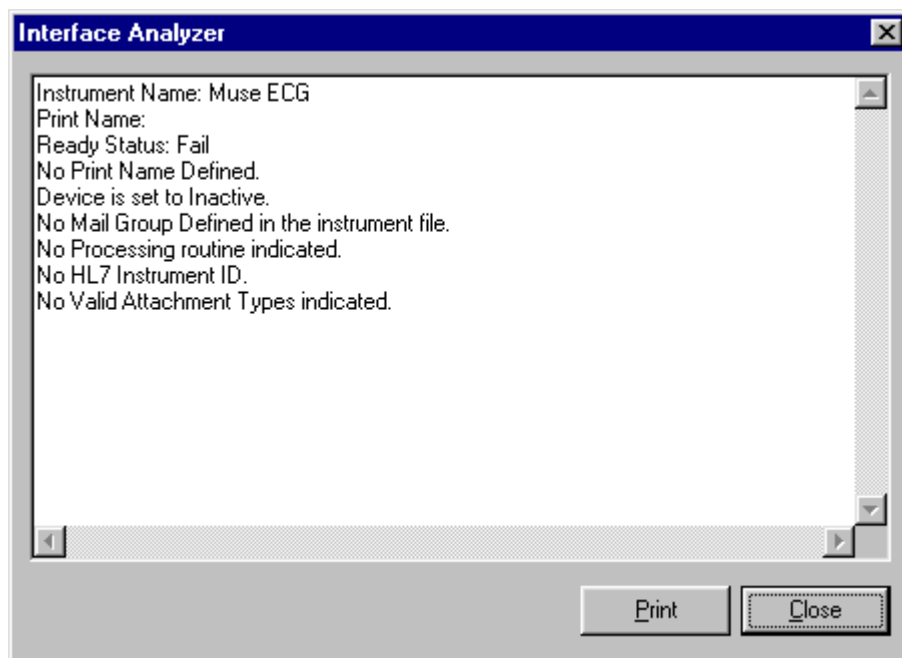

Figure 6-6
2. Select the instrument that you want to analyze. Click **Analyze**. A window similar to Figure 6-6 is displayed. This window indicates the ready status of the instrument and lists other information as well.
is capitalized), in the left side of the CP Manager window. See Figure 6-6.